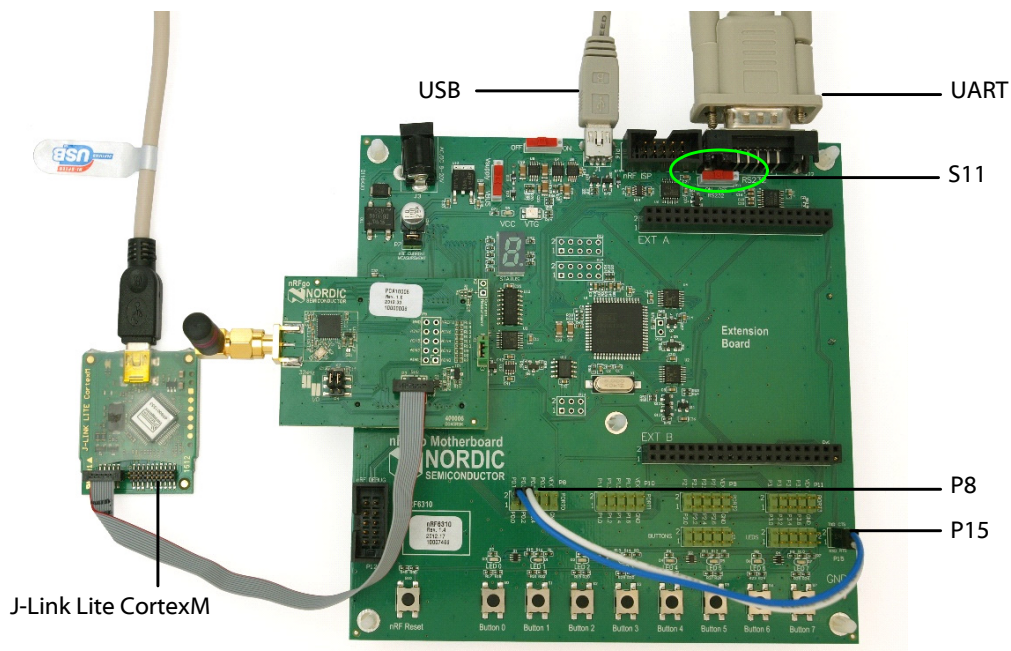

Figure 35 UART setup for DTM
2. Connect a double cable, or two single cables, between **P15** and **P8** on the Motherboard as shown in **Figure 35**. The UART data pins RXD and TXD will be present on the I/O port pins P0.1 and P0.3 as seen in **Table 7 on page 44**. Make sure the RXD/TXD labels match for each wire. This matches the default setting in the SDK project `ble_app_dtm`.